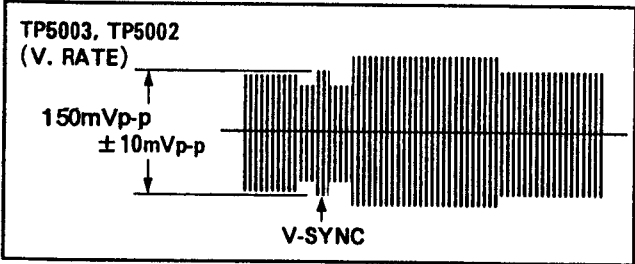

Figure E9
- 4. Adjust VR3008 for 150mVp-p ± 10mVp-p as a luminance signal as shown in Figure E9.